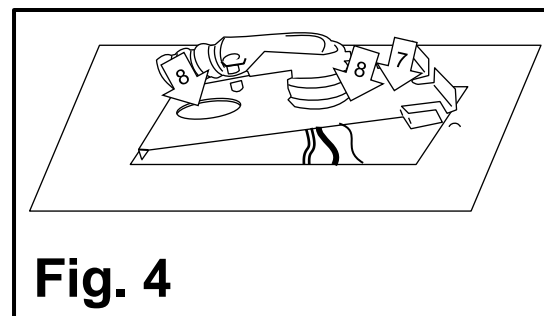

Fig. 4
9. Remove one **knockout** (#8) in **access plate** (#7) and pull **fixture supply wires** through **knockout** (#8) opening [Fig. 4 & 5].